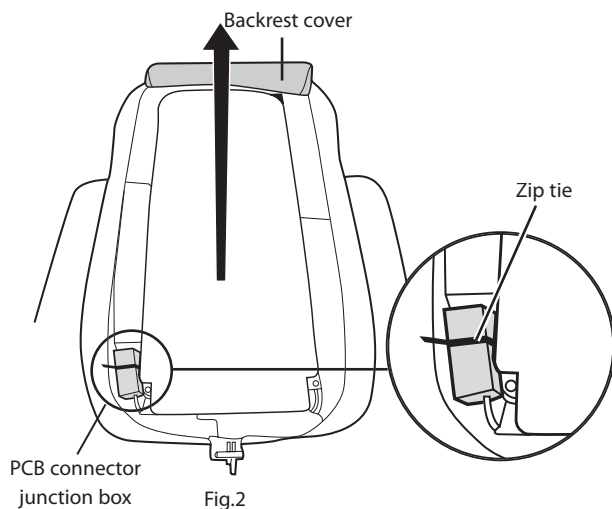

Fig.2
3. Open the backrest zippers, then flip the backrest cover forward (Fig.2).
4. Using a nail clipper, or other instrument suitable for cutting zip ties, cut the zip tie that secures the PCB connector junction box covers (Fig.2).
7. Place the two sets of connectors inside the PCB connector junction box, snap the box shut, then secure it using a new zip tie (Fig.2 and Fig.3).